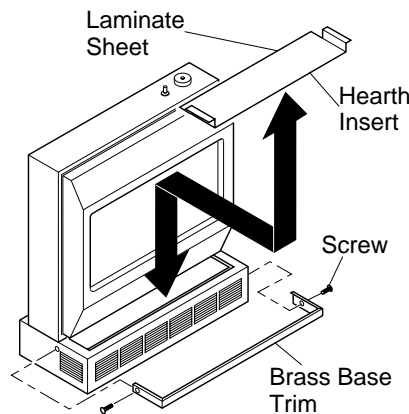

Figure 17 - Placing Hearth Insert on Heater Base and Attaching Brass Base Trim
6. Place hearth insert in hearth base as shown in Figure 17.
8. Slide base trim on heater base. Attach brass trim to base with two brass screws included as shown in Figure 17.